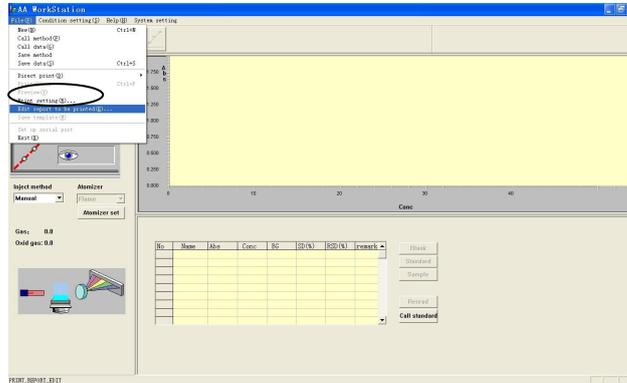

Figure 8-3
4. Select "Edit report to be printed" in the "File" menu, as shown in Figure 8-3.